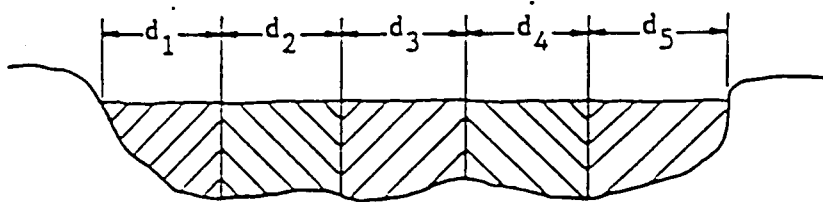

Figure 2-1. Segment Distance
- * Divide the width of the channel into a number of equal segments with a distance d (Figure 2-1). The more segments you use the better the result. If the difference in mean velocity between two adjacent segments is greater than 10%, the segments should be smaller.